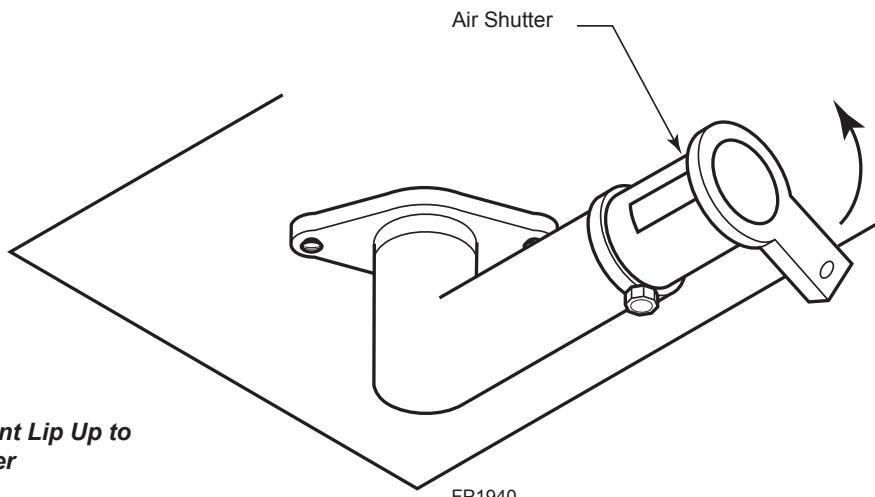

Figure 38 -
2. Remove log support bracket by removing two (2) screws in rear and one (1) screw on each side wall.
3. Remove four (4) screws holding burner in place and slide burner to the left and up and out of unit, allowing access to venturi air shutter. Repeat for rear burner.
- To increase air mixture, open the shutter more. This will reduce soot formation. *Figure 38*